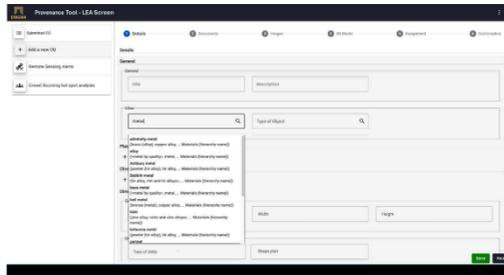

Figure 6: Add a new CG screen.
3. After feeling the fields demonstrated in *Figure 6*, click the “Next” button to proceed to the image upload stage.